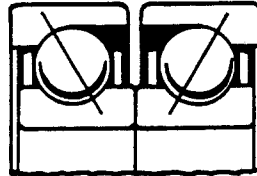

Figure 2. Correct Bearing Mounting
Press the heated outboard bearings on the impeller shaft, making certain that they are installed with the loading opening sides facing each other and the ball contact angles converging toward the center (see Figure 2).
Press the oil seal (94) in the bearing cap with the lip positioned toward the bearings as shown in Figure 2.
Install the oil seal (100) in the pedestal body with the lip positioned as shown in Figure 2. Install the slinger ring on the shaft. Secure the pedestal assembly to the intermediate, with "TOP" in proper position.
Press the oil seal (93) into the seal plate with the lip positioned as shown in Figure 2. Install the seal plate in the intermediate.